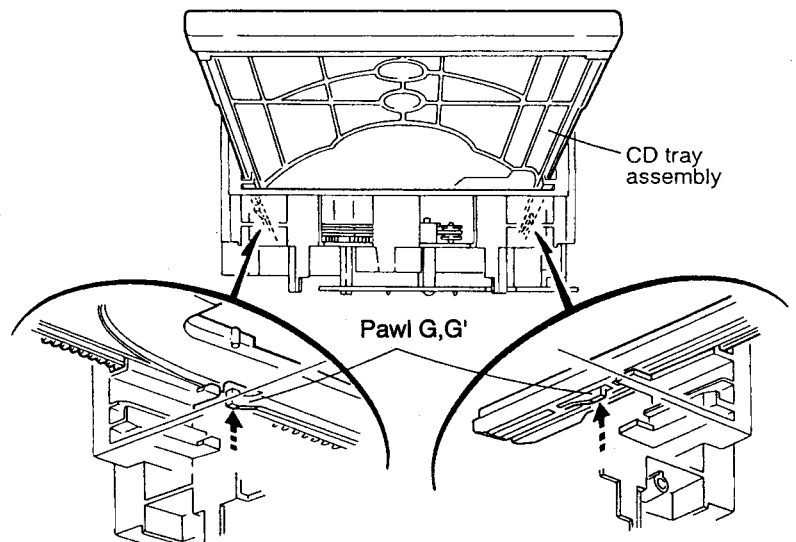

Fig.5-43
15. At the position where the CD tray assembly has stopped, pull out the CD tray assembly while pressing the two pawls "G and G'" on the back side of CD tray assembly (See Fig. 5-43). In this case, it is easy to pull out the assembly when it is pulled out first from the stage CD tray assembly.